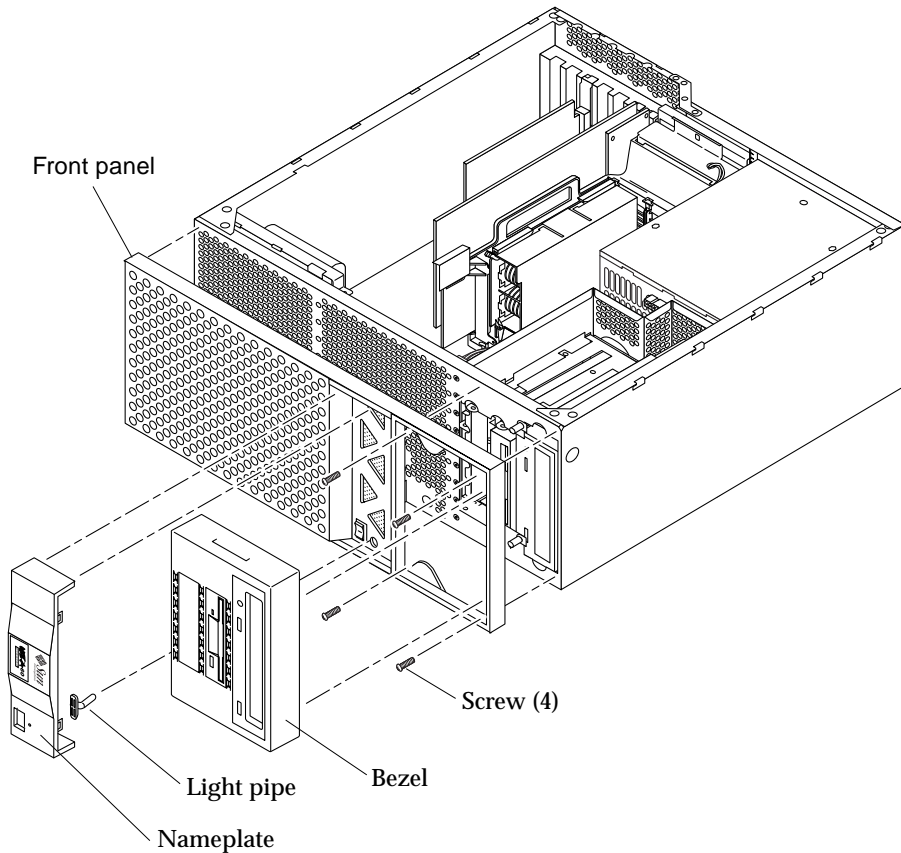

FIGURE 8-19 Removing and Replacing the Front Panel
- 11. Remove the front panel (FIGURE 8-19):**
2. Replace the front panel (FIGURE 8-19):